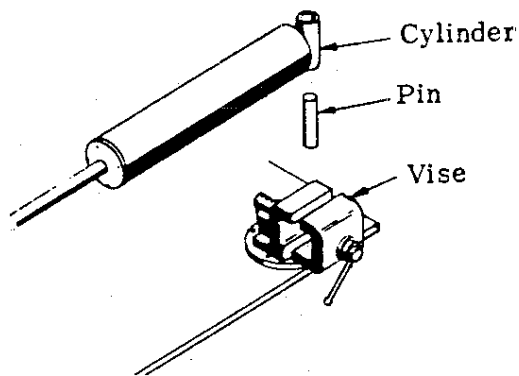

Figure G1-1. SECURING CYLINDER
2. Place the cylinder on a flat surface near a vise. Slip a pin through the pin boss and clamp the pin in a vise (Figure G1-1).
4. Secure the rod pin boss in the same manner as the base end pin boss (Figure G1-1).
13. Secure the rod as shown in Figure G1-1 and screw the piston onto the rod by hand. You should be able to get the piston almost all the way onto the rod before using the spanner wrench.
18. Secure the cylinder (Figure G1-1) and torque the head in the same manner as the piston.